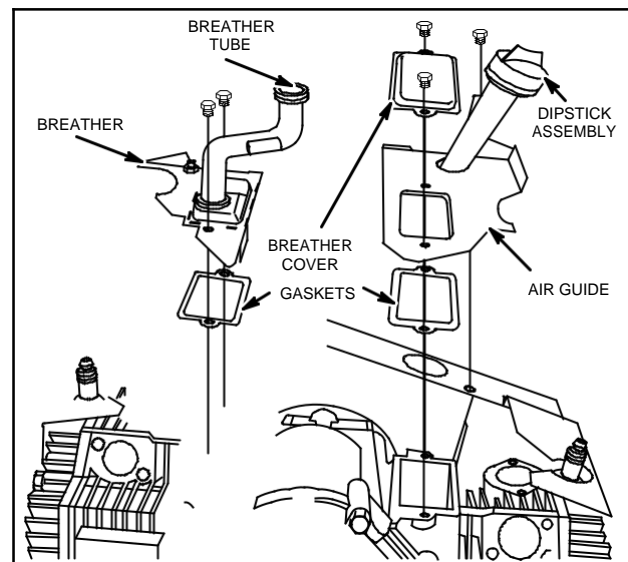

**Fig. 5 – Removing Breather Vertical Crankshaft Engines**
3. Remove air guide, breather cover and breather(s), Fig. 5 and Fig. 6.